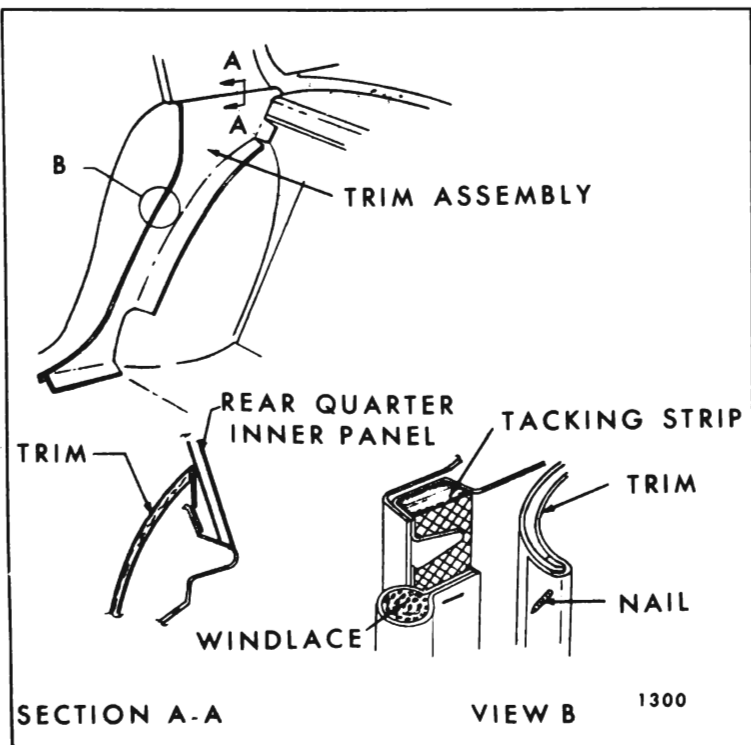

Fig. 8-14—Rear Quarter Lower Trim Assembly - "B&C" Body "39 and 69" Styles
3. With tool J-6335, or any other suitable flat bladed tool, pry trim assembly retaining nails from tacking strip (see Fig. 8-14).